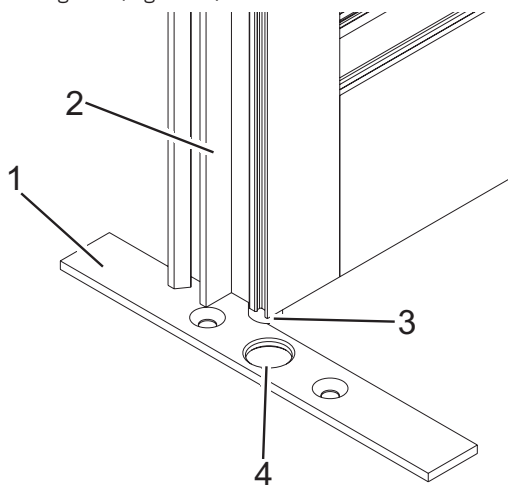

Fig. 25: Positioning the drilling template
1. Move the panel (Fig. 25/2) into the end position.
2. Position the drilling template (Fig. 25/1) below the locking bolt (Fig. 25/3).
3. Slowly operate the panel lock and center the locking bolt (Fig. 25/3) in the borehole (Fig. 25/4) of the drilling template.